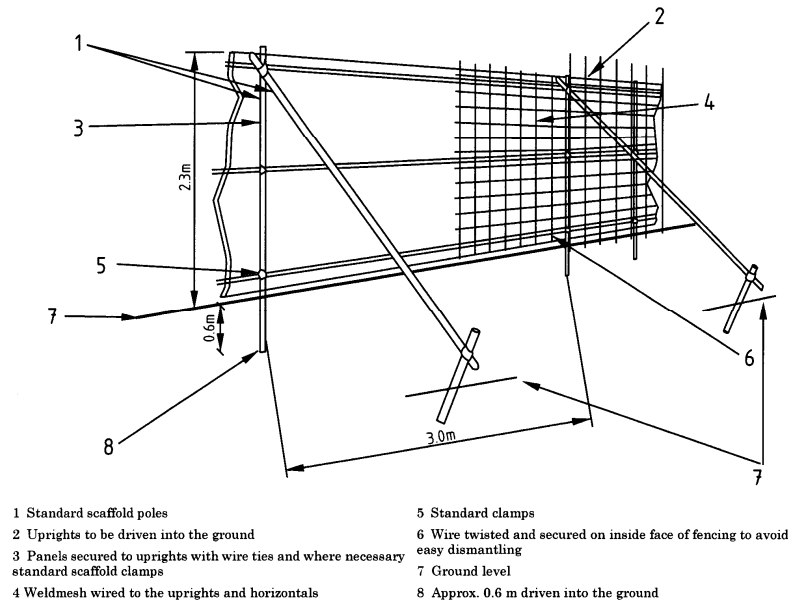

Figure 2 - Protective barrier
The above mentioned fencing shall consist of a scaffold framework in accordance with Figure 2 of British Standard 5837:2005 comprising a vertical and horizontal framework, well braced to resist impacts, with vertical tubes spaced at a maximum interval of 3 metres. Onto this, 2.1 metre weldmesh panels shall be securely fixed with wire or scaffold clamps. This fencing shall be erected at the extent of each tree(s) Root Protection Areas, as set out in British Standard 5837:2005. Nothing shall be stored or placed in any area fenced in accordance with this condition and the ground levels within those areas shall not be altered, nor shall any excavations be made without the written permission of the Local Planning Authority.
- 6.2 The fencing will consist of a scaffold framework in accordance with Figure 2 of BS 5837 – 2005 (Illustration below) comprising a metal framework, both vertical and horizontal, well braced to resist impacts. Vertical tubes will be spaced at a maximum interval of 3m. Onto this, weldmesh panels shall be securely fixed with wire or scaffold clamps. Weldmesh panels on rubber or concrete feet are not considered resistant to impact and for this reason will not be used. The site manager or other suitably qualified appointed person will be responsible for inspecting the protective fencing on a daily basis; any damage to the fencing or breaches of the fenced area will be rectified immediately.